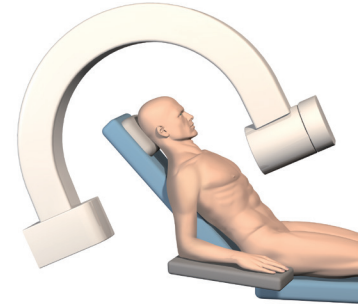

fig. 1
- The C-arm is placed longitudinally at the patient's head (fig. 1).